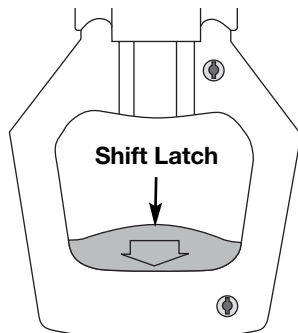

Fig. 8
- If the shift handle is in the UP position, grasp the yellow shift latch (Fig. 8) on the shift handle and squeeze until the internal locking mechanism releases.